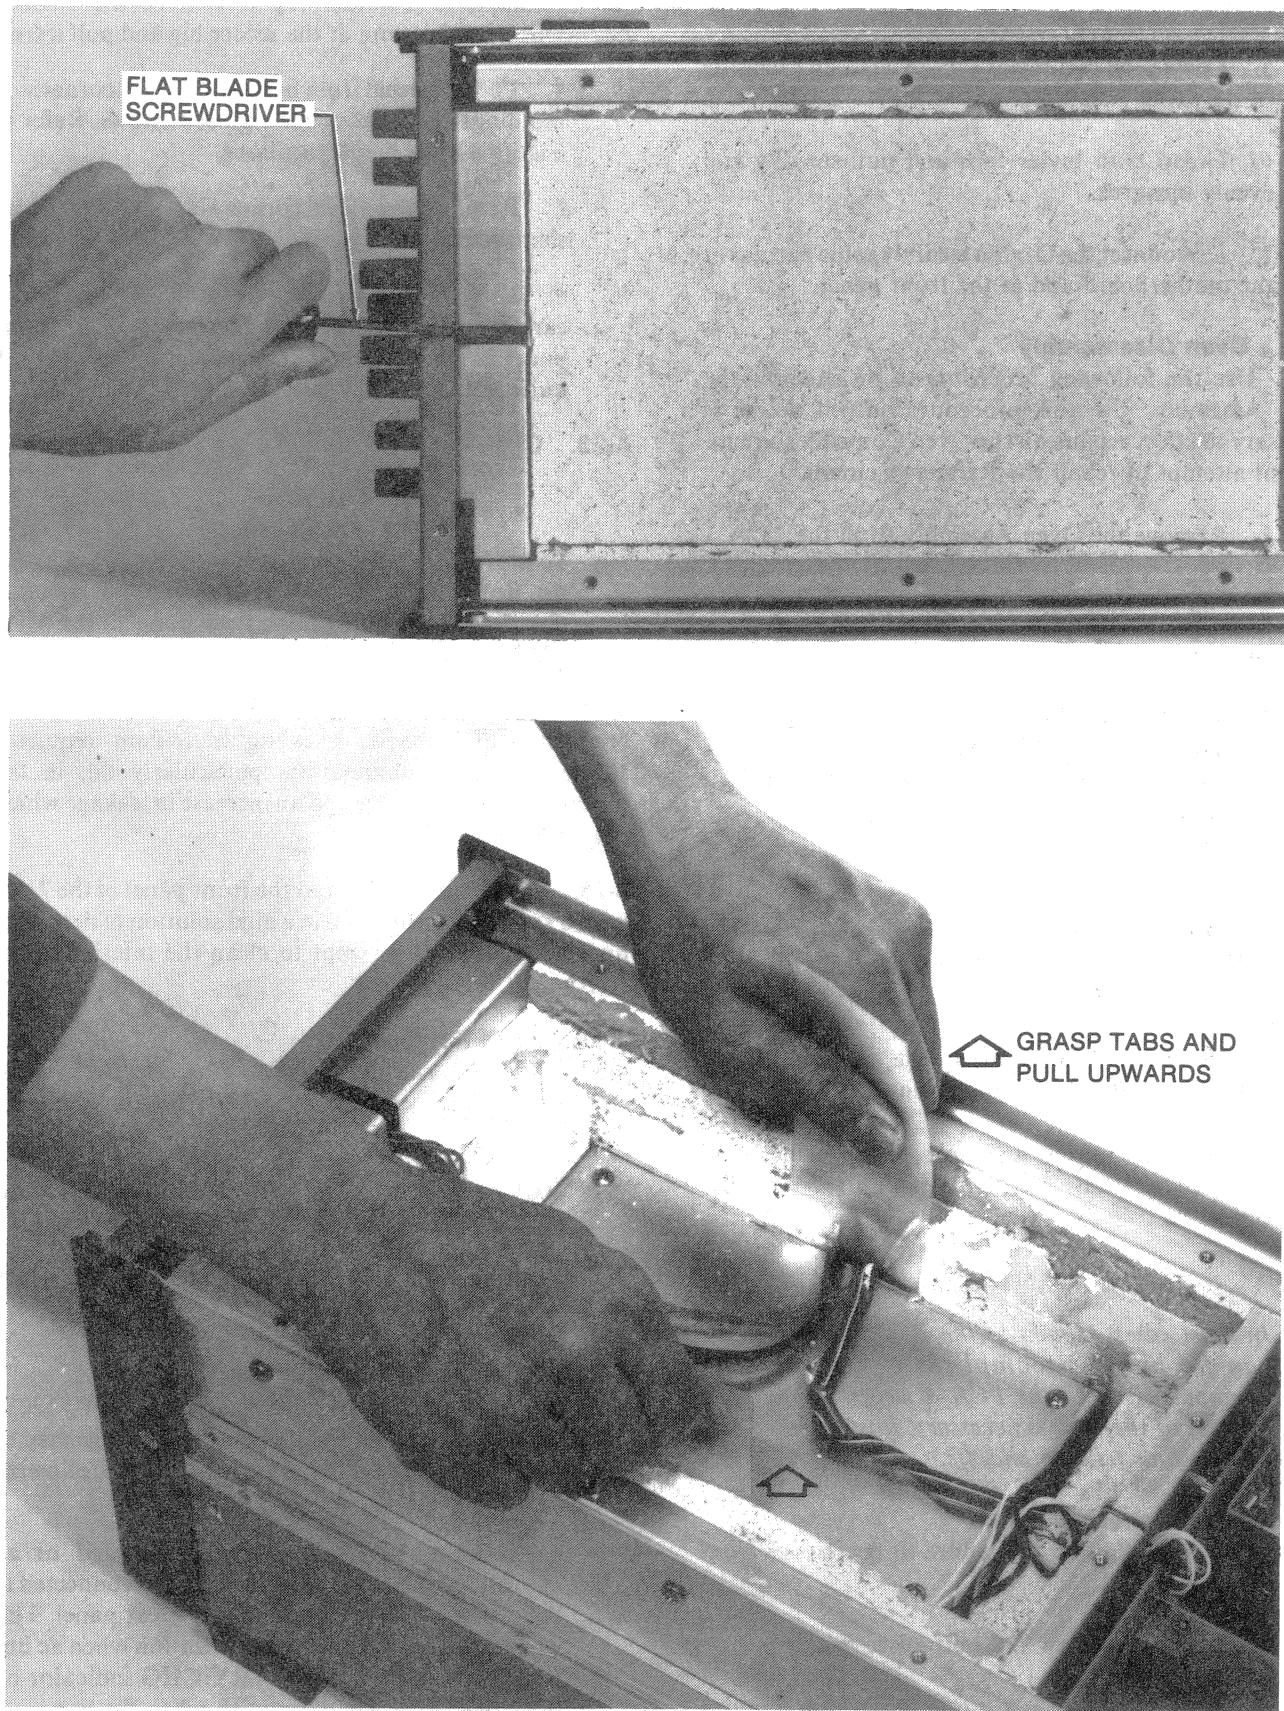

Figure 4-4. Oven Assembly Removal
- 4-18. Use the following procedure to remove the oven assembly from the 732A (Refer to Figure 4-4)